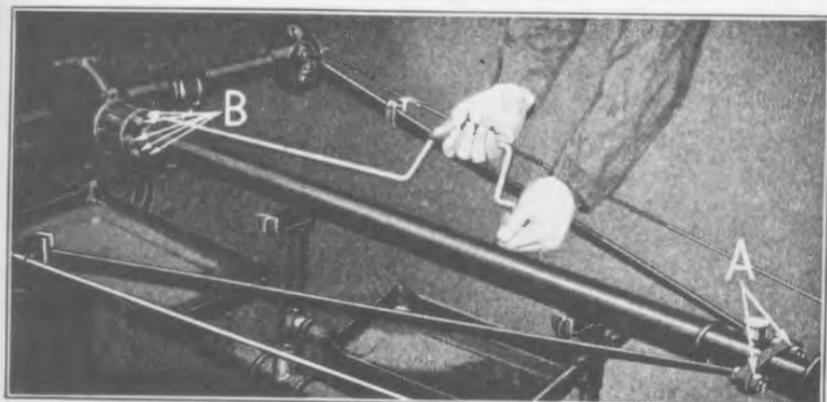
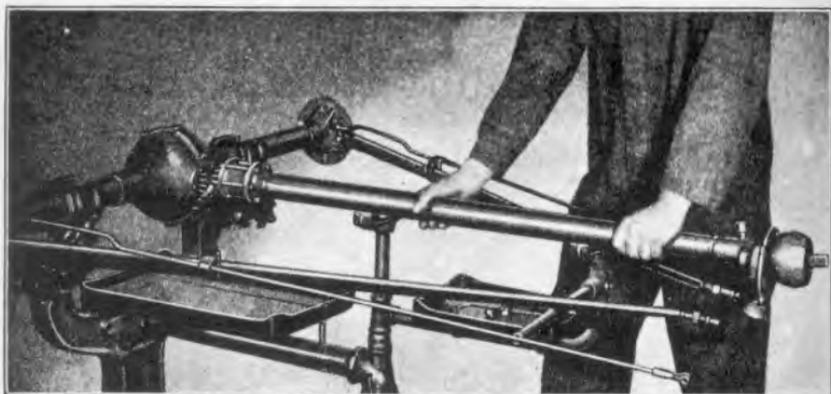

Fig. 320
Fig. 321
- 566 Remove drive shaft by running off the two radius rod nuts from ends of rods (See "A" Fig. 320) and running out the six drive shaft roller bearing housing cap screws "B". Drive shaft can now be lifted from axle housing as shown in Fig. 321.